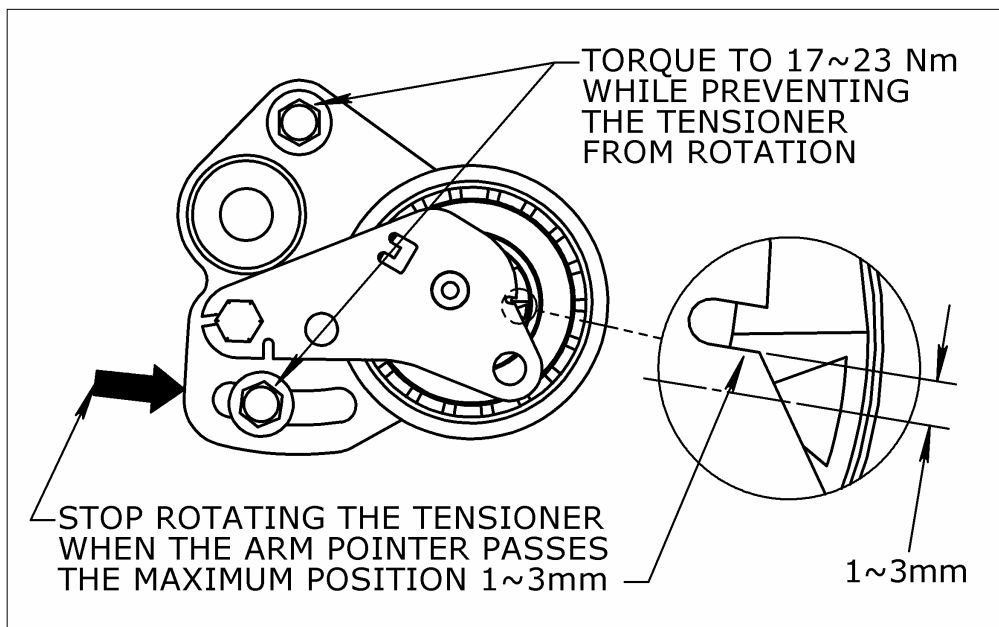

Figure 5: Tensioner shown at Over Tensioned Position
9. Continue rotating the tensioner assembly until the indicator mark on the arm moves past the maximum position edge of the nominal notch on the front plate approximately 1~3 mm. While preventing the tensioner assembly from rotation using the installation tool, torque the 2 M8 mounting bolts to **17~23 Nm** (Figure 5).